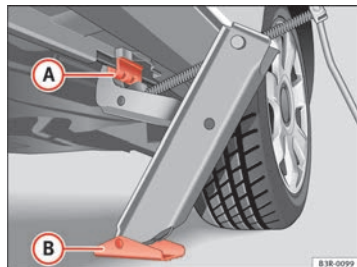

Fig. 181 Changing the wheel: Jack
- Align the jack so that the arm of the jack fits on the rib under the door sill ⇒ **fig. 181 A** and the movable base plate of the jack **B** is flat on the ground.